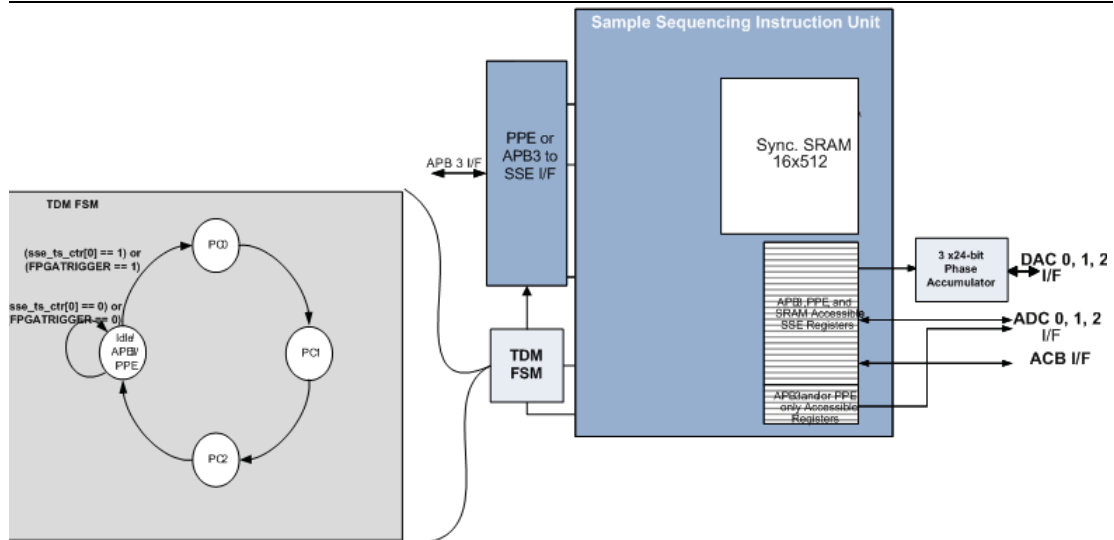

Figure 2 • Overview of ACE Architecture and Interfaces
Figure 2 provides an overview of the sample sequencing engine (SSE) block and its interfaces to PPE, APB3, ADCs, DACs, and ACB. The SSE block has the following:
The TDM FSM block (shown in Figure 2 on page 2) implements a mechanism to sequence through the ADCs. It allows the equal access by three separate program counters (PC0, PC1, and PC2) in the SSE and the APB3/PPE master. The SSE uses a separate program counters (PC) for sequencing and controlling each ADCs independently. When controlling the SSE from the APB3 master, the master needs to honor the wait-states generated by the *PREADY* signal during the normal operation of the SSE TDM timeslot counter.